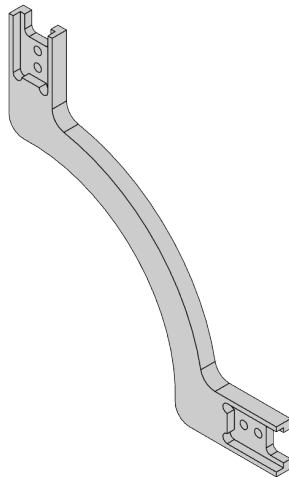

Figure 2.2: Positioning tool.
1. ☐ Fix the reference interconnection bracket and a regular interconnection bracket to the positioning tool (fig. 2.2) using four M5x16 bolts.